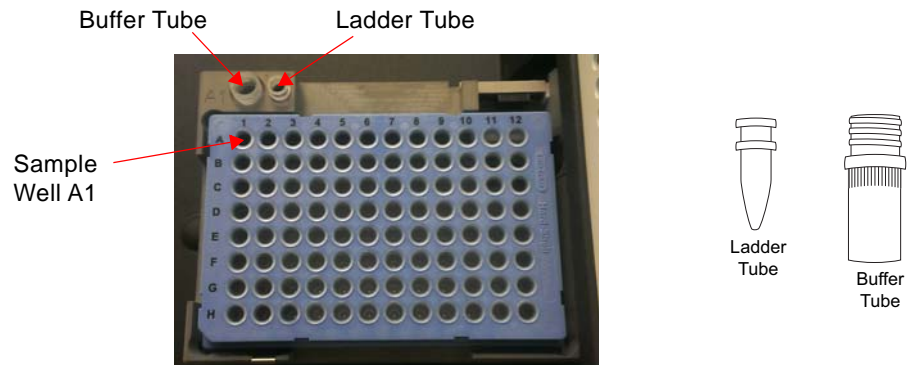

Figure 3. Buffer Tube and Ladder Tube in the GX Touch/GXII Touch
- 4 Insert the Ladder Tube into the ladder slot on the LabChip GX Touch/GXII Touch instrument (see Figure 3).
- 2 Insert the Buffer Tube into the buffer slot on the LabChip GX Touch/GXII Touch instrument (see Figure 3).